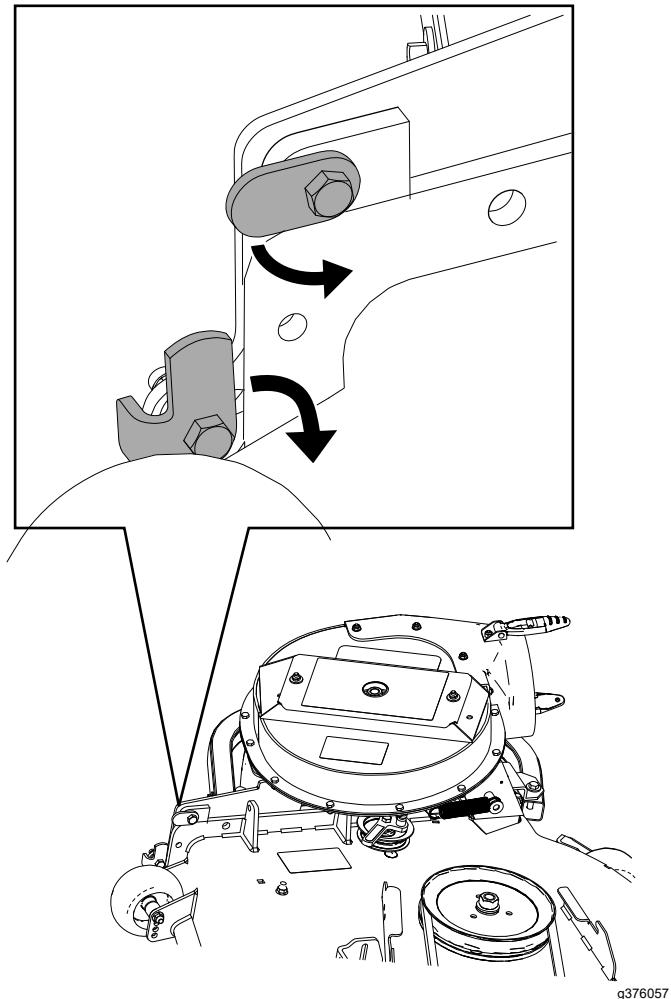

Figure 36
4. Close the blower assembly to see if the latches are adjusted correctly (Figure 35 and Figure 36).